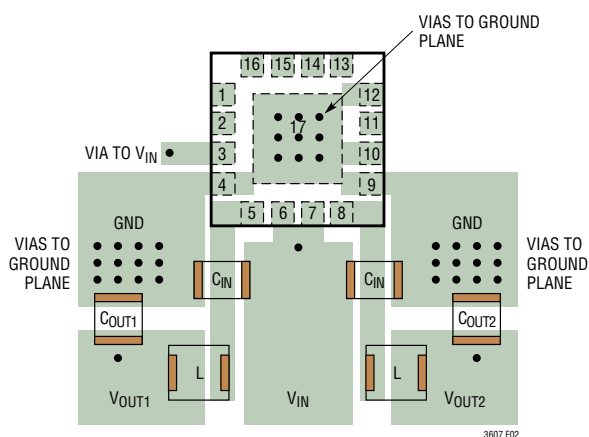

Figure 2. Example of Power Component Layout for QFN Package
When laying out the printed circuit board, the following checklist should be used to ensure proper operation of the LTC3607. These items are also illustrated graphically in the layout diagram of Figure 2. Check the following in your layout:
6. Flood all unused areas on all layers with copper. Flooding with copper will reduce the temperature rise of power components. These copper areas should be connected to VIN or GND. Refer to Figures 2 and 3 for board layout examples.